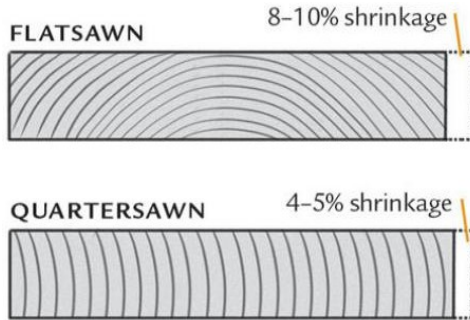

Fig. 129. Shrinkage
8. Shrinkage: During seasoning, the M.C. is dried out, and the cells dry and shrink (close). The timber's shrinkage is not the same in all directions, which creates certain complications (Figure 129).